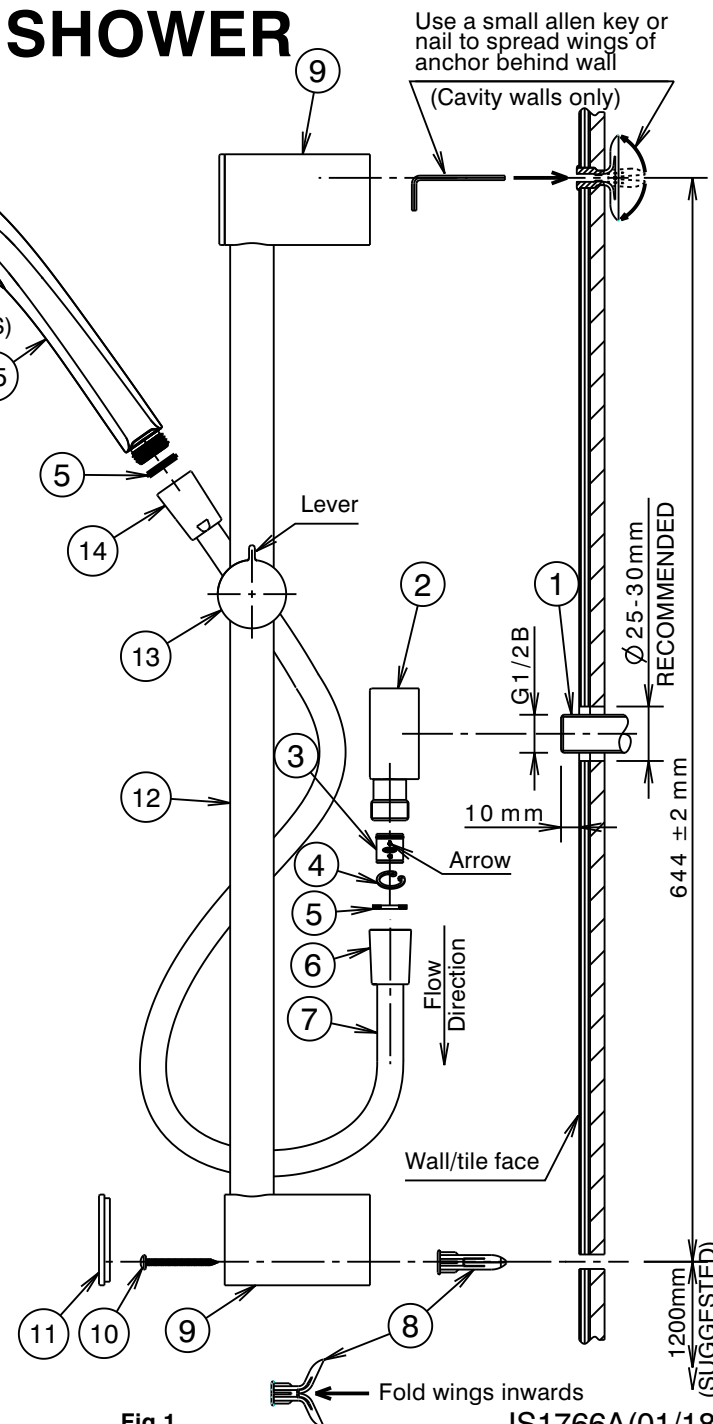

Fig.1
- ii) Fold the wings of the anchors (8) inwards, as shown.
- iii) Insert the folded anchor (10) into each drilled hole and tap until the head is flush with the wall surface.
- ii) Fold the wings of the anchors (10) inwards, as shown.
- iii) Insert the folded anchor (8) into each drilled hole and tap until the head is flush with the wall surface.
- iv) Insert a small allen key or nail into the hole of the anchor (8) to spread the wings of the anchor behind the wall (Fig.1).